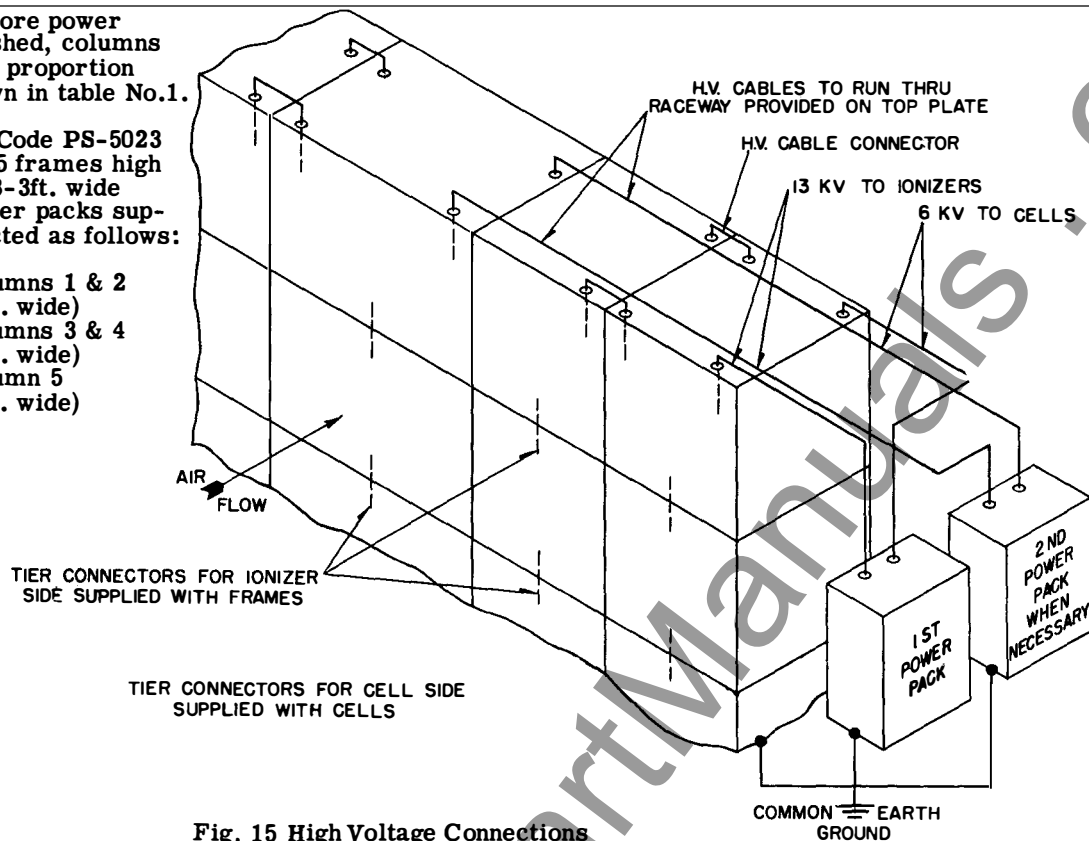

Fig. 15 High Voltage Connections
Two lengths of high voltage cable are required from each power pack. See Fig. 15. These cables should be installed in conduit between the power packs and the top plate raceways. The cables are then extended through the raceways to the top cells and ionizers. Cable holes are provided in the bottom of the top plate raceways. The raceway on the inlet air side is for ionizer cables (13 KV) and the outlet raceway is for cell cables (6 KV).
**High Voltage Connections** to the cells and ionizers enter only at the top of each column of frames. All cells and ionizers within columns are interconnected vertically with tier connectors. See Fig. 15.
Where one power pack is sufficient for more than one column of frames, additional columns are added with high voltage jumper cables threaded through the top plate raceways. Cable connectors are furnished in bags supplied with the top plates. See Fig. 15.
**Grounding the Equipment** High voltages are supplied from the power packs to the cells and ionizers with single conductor cables. A common ground return is required for these circuits as shown in Fig. 15. Also, this grounding is necessary for safety purposes because of the high voltages involved.